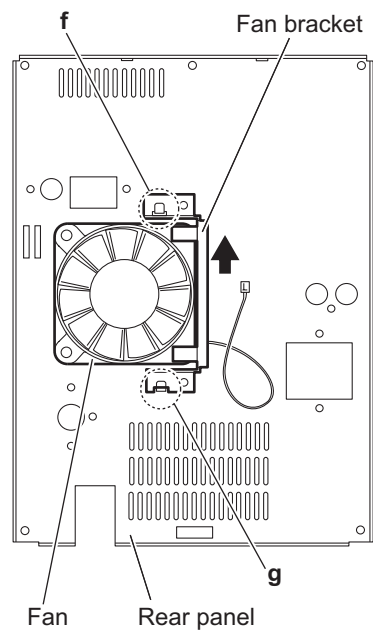

Fig.15
- (2) From the inside of the rear panel, move the fan bracket in the direction of the arrow to release the engagement sections (**f, g**). (See Fig.15.)
- (3) Remove the fan bracket from the rear panel and remove the fan. (See Fig.15.)